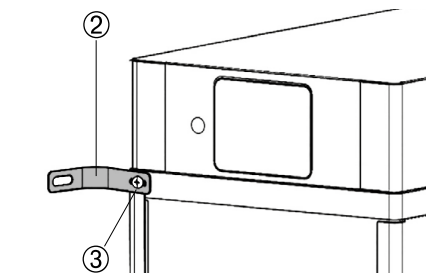

Fig. 3.15 - Metal Brackets fixing points
Follow the illustrations below, firstly fit the anti-toppling brackets on back sides of the BMS, then use M4 screws to fix (3, Fig. 3.15). REMEMBER to fit the brackets on both sides of BMS, same with following steps.
- Fit the brackets across the M8 expansion bolts on both sides, then fix the brackets on the BMS with M4 screws (3, Fig. 3.15).